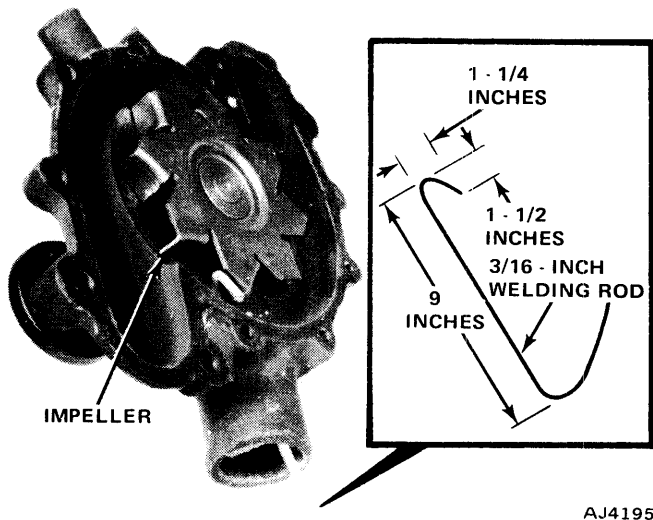

Fig. 2-5 Checking Water Pump for Loose Impeller
- (1) Position clean bucket beneath water pump.
- (2) Loosen fan belt.
- (3) Disconnect lower radiator hose from water pump.
(4) Bend stiff clothes hanger or welding rod as shown in figure 2-5.
(5) Position rod in water pump inlet and try to turn fan. If impeller is loose and can be held with rod while fan is turning, pump is defective. If impeller turns, pump is OK.
(6) Reconnect hose and replenish coolant, or proceed with further repairs.